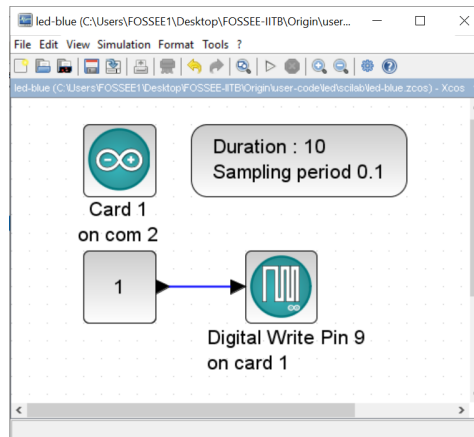

Figure 4.6: Turning the blue LED on through Xcos. This is what one sees when **Origin/user-code/led/scilab/led-blue.zcos**, see Footnote 2 on page 2 is invoked.
1. First we will see how to turn on the blue LED. When the file required for this experiment is invoked, one gets the GUI as in Fig. 4.6. In the caption of this figure, one can see where to locate the file.